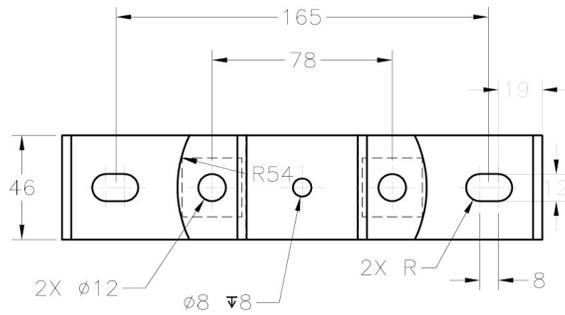

Figure 9-78a *Top view of the Casting*
1. Create all components of the Plummer Block assembly as separate part files. Then, save the files with their respective names, refer to Figures 9-78a through 9-81. The files should be saved at the location *C:\Inventor_2016\c09\Plummer Block*.